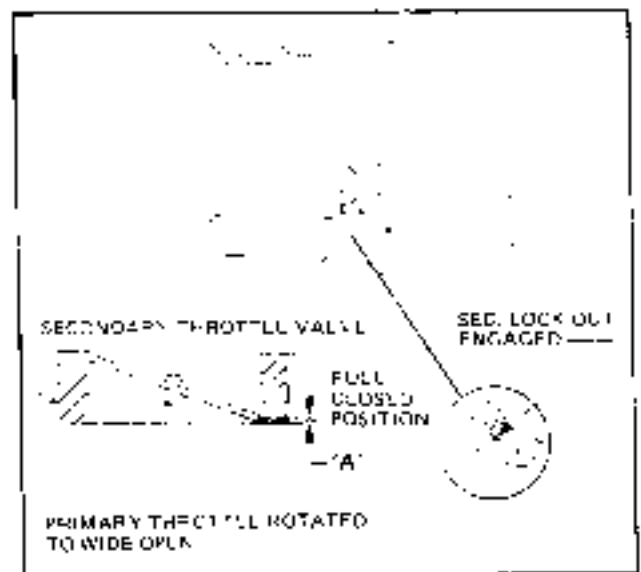

Figure 6C-150
2. Slowly depress accelerator pump plunger until secondary spring resistance is felt. The distance traveled from rest position should be to specifications (Fig. 6C-151).